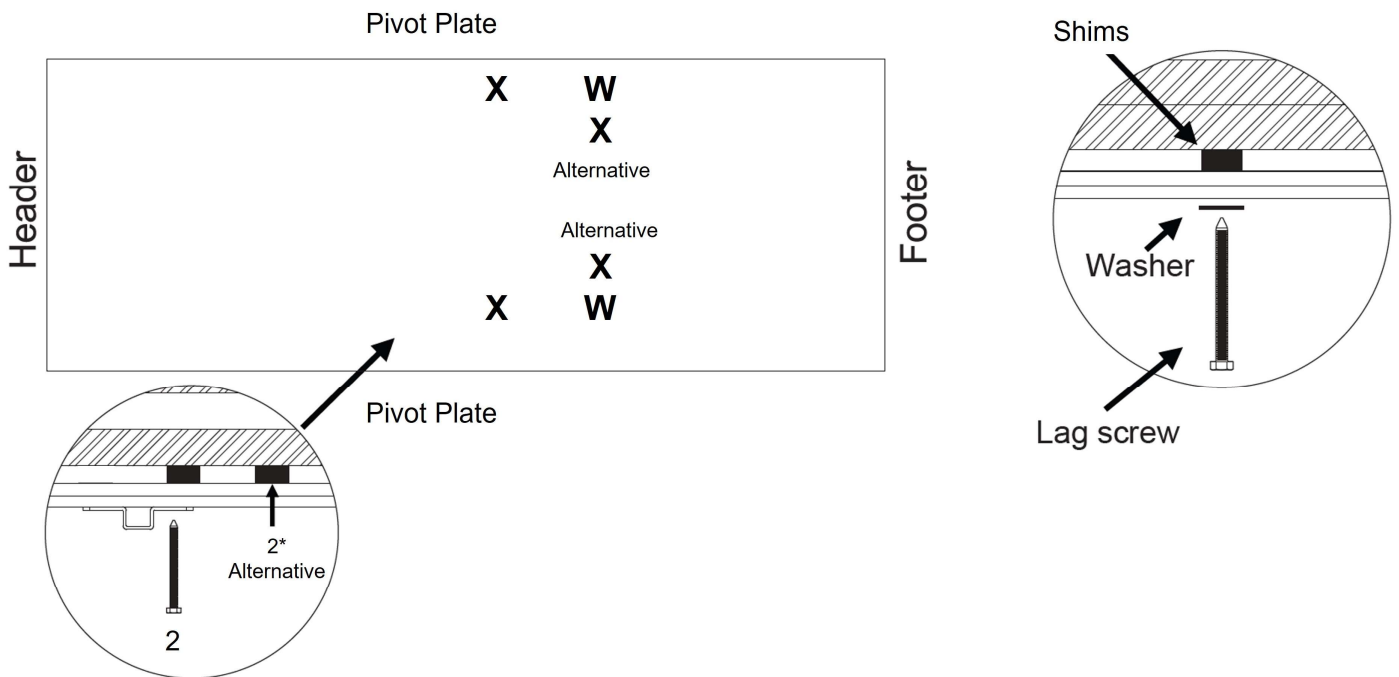

FIGURE 26 : SECURING SIDE FRAME RAILS
U. Installer #1 and #2: Position shims from above and below at the 2 pre-drilled pivot plate holes on each frame side rail at position 2 (See **Figure 25**). The shims should provide uniform support so there is no twisting or bowing of the aluminum frame. Drill 5/32" diameter by 3" deep pilot holes into the ceiling joists through the bushings at position 2. Install the 2 lag screws to secure the attic ladder (see **Figure 26**).